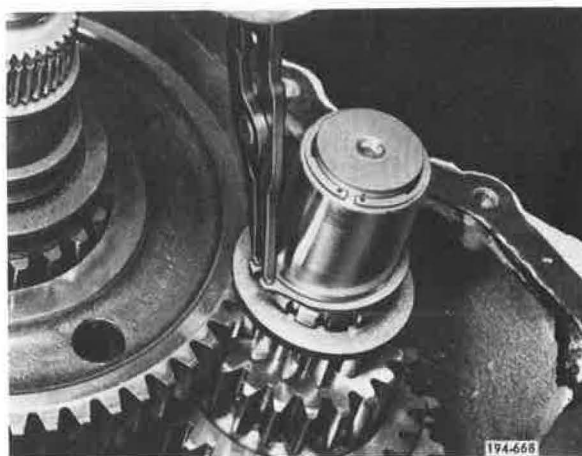

Figure 5-523. Installing Snap Rings
27. Install front countershaft selective thrust washer retaining snap rings, using snap ring pliers J-6435 or equivalent. See Figure 5-523.